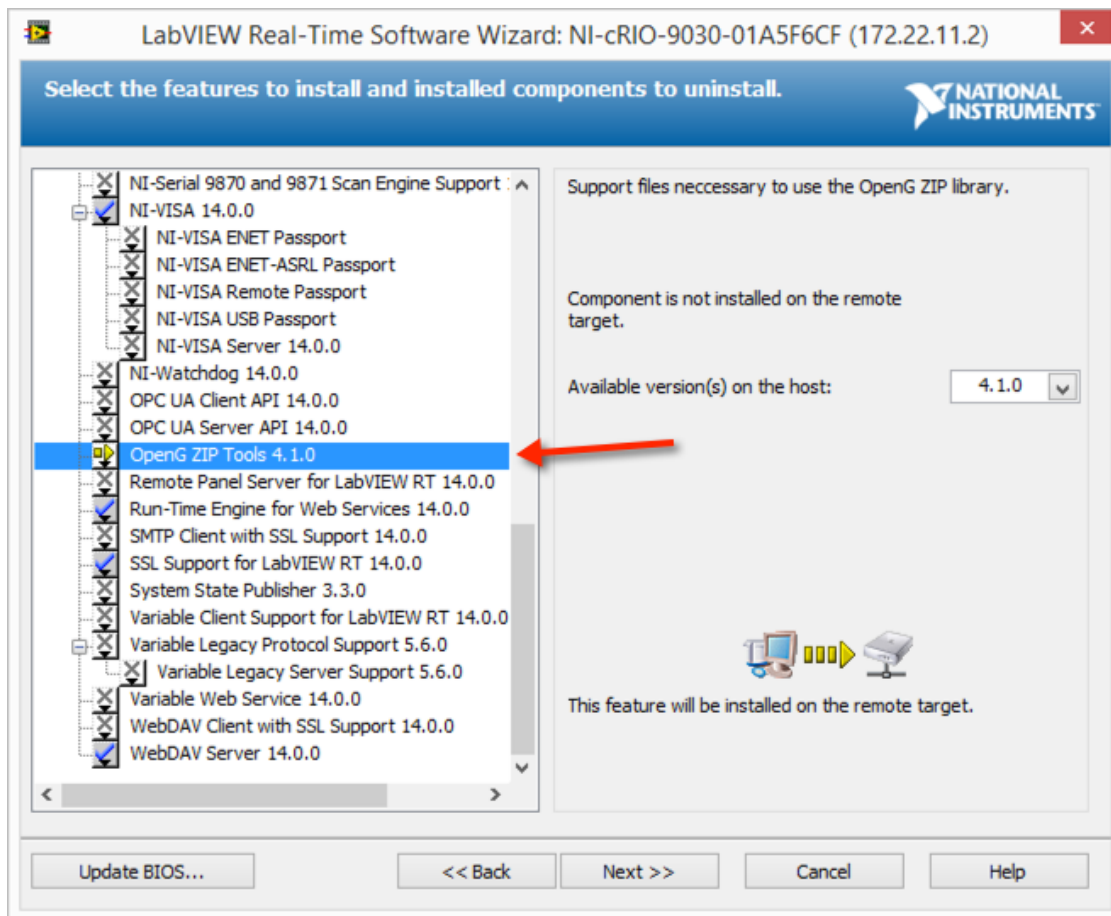

Figure A.1 Installing OpenG ZIP Tools on cRIO-903x Using NI-MAX
3. Install the RT portion of the package to the cRIO-903x using the Add/Remove Software function in NI-MAX (Figure A.1)